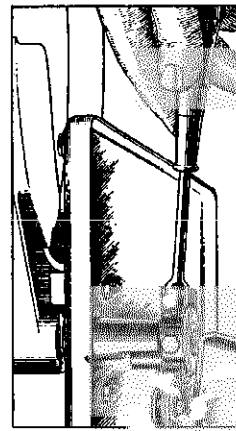

Figure 9—Magazine turntable eccentric
- (b) Improper setting of magazine. The horizontal swing of the magazine should be so adjusted when the mechanism is out of cycle that the outer surface at its nearest point to the nearest side of the turntable spindle is $5 \frac{1}{16}$ ". This can be done by loosening the two screws as shown in Figure 9, moving the magazine to its correct position and retightening the screws.